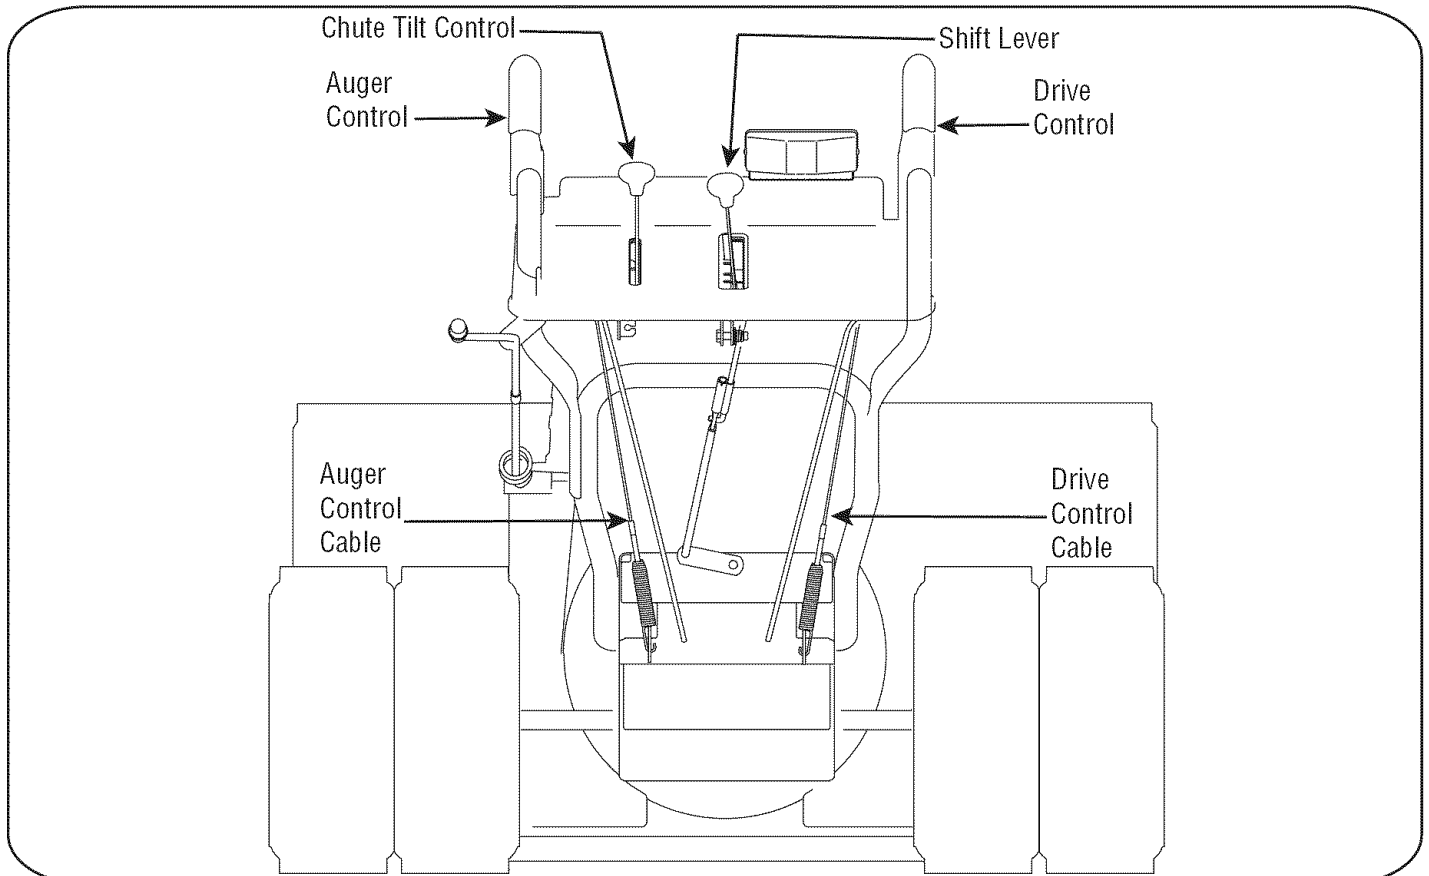

Figure 9
Refer to Figure 9 for location of controls.
1. From beneath the handle, pull downward on the appropriate cable and unhook the spring found on the end of the cable from its respective actuator bracket. Refer to Figures 9 and 10.